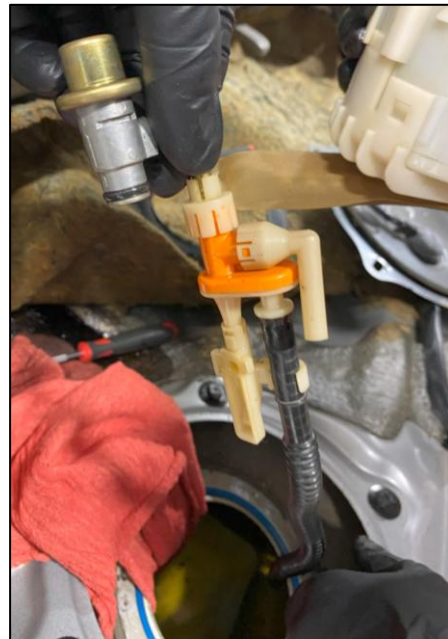

Figure 9
15. With the Metal Clip removed, disconnect the Siphon Hose Assembly from the Lower Half. The Basket assembly can now be removed from the vehicle. Depending on how much fuel was in your tank, the Basket Assembly will likely be full of fuel. Drain any remaining fuel into an appropriate container. *Figure 9.*